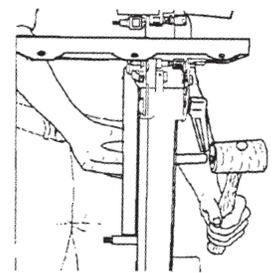

Fig. 4
- b. Use a wood or rawhide mallet to tap the end of the drive shaft, to loosen the bearing in the frame, as seen in Figure 4. Pull the wheel free.